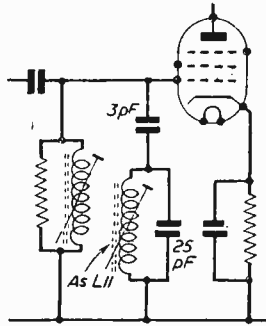

Fig. 17.—Circuit details of the sound-trap or rejector coils.
**Vision Circuits:** The alignment here is different for the different channels, and so the following table is drawn up giving suitable frequencies. For all channels except London, additional sound traps will have to be fitted, and the wiring of these is shown in Fig. 17. The coils are untapped versions of L11 and are fitted on the dividing screen so as to be very close to the grid circuits into which they are inserted. The coils should be at least 2in. apart, otherwise a small screen should be fitted between them. These traps are tuned to give a *minimum* output on the 1 mA. meter with the input frequency set to the appropriate sound channel.